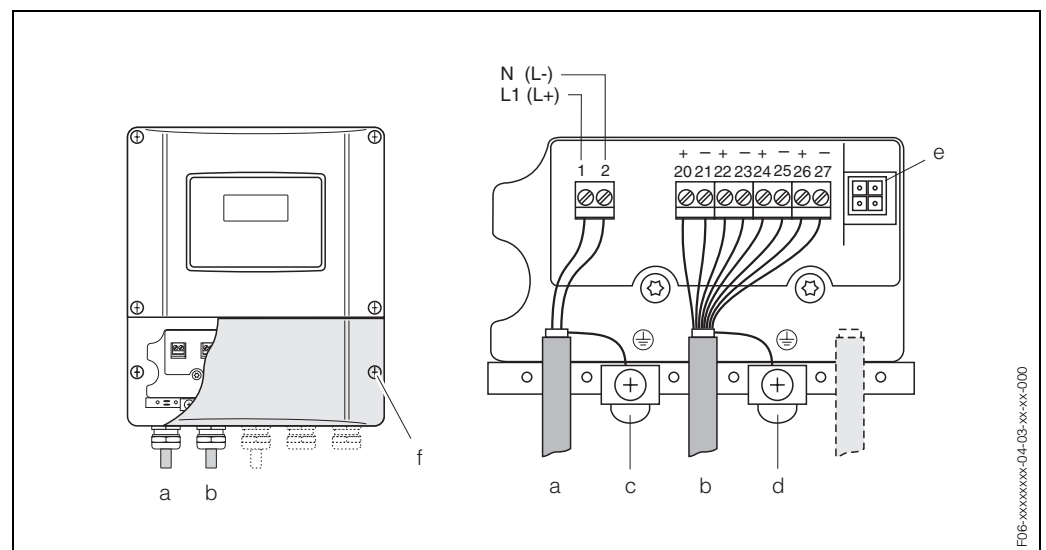

Fig. 19: Connecting the transmitter (wall-mount housing). Cable cross-section: max. 2.5 mm2
- Wiring diagram (wall-mount housing) → Fig. 19